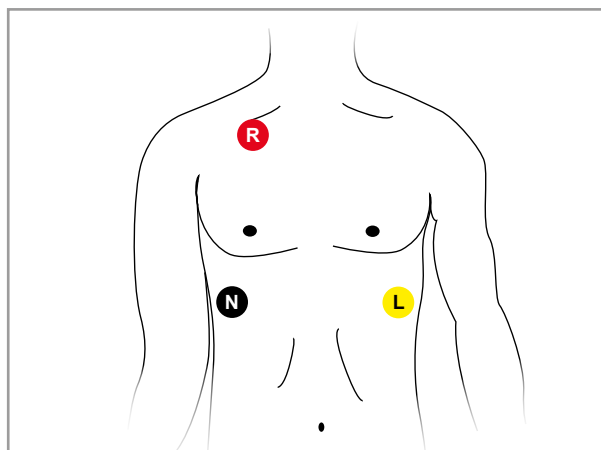

Figure 5 – 1: ECG electrode placement
- Attach disposable electrodes (see figure 5 – 1)
- Attach the electrodes (see figure 5 – 1), briefly tap on the electrode to generate suction: the pump starts up